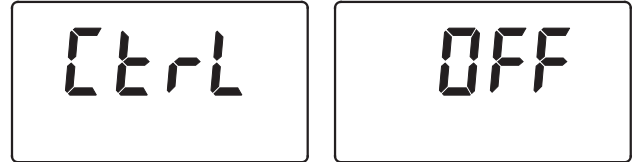

FIG. 28
2. Press the SELECT button six times, until "Ctrl" flashes in the display (See Figure 28).